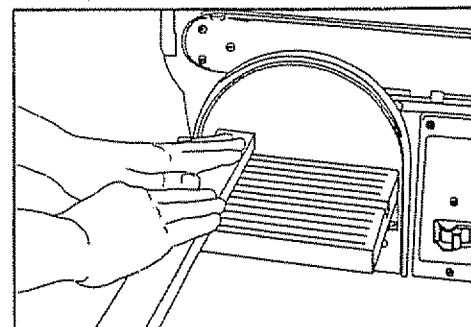

Fig. 22
■ End sanding and outside curve sanding with the disc (see figure 22)